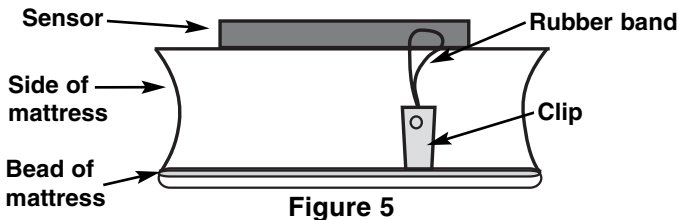

Figure 5
2. Using the band and clip package provided with the sensor pad, fasten the sensor pad to the mattress (**Figure 5**). Make sure the sensor pad is fastened securely and lies flat against the mattress.